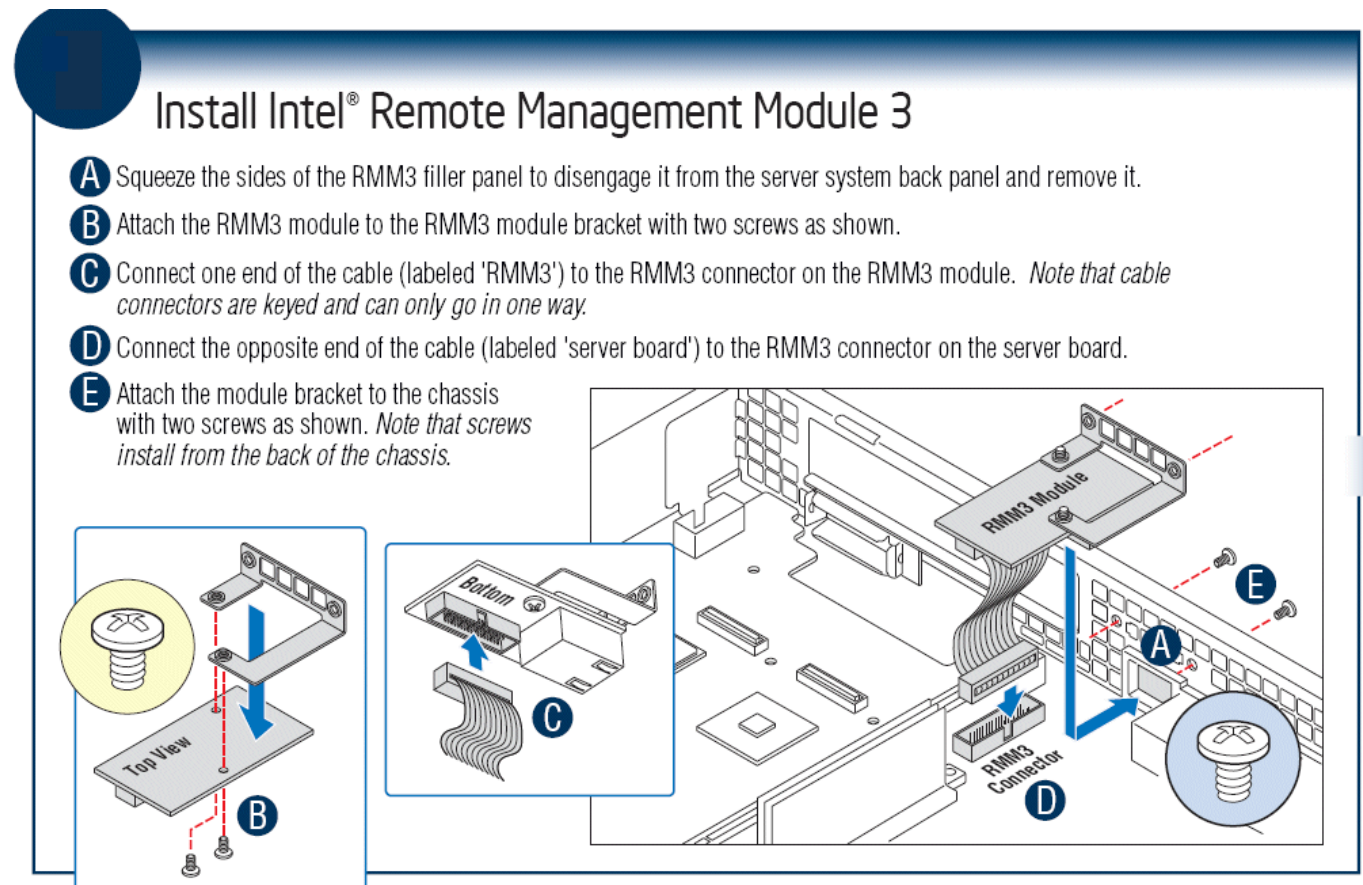

Figure 2 – Installing Intel® RMM3 on Intel® Server Boards S5500UR and S5500WB
4. Mount the RMM3 module to the header on the baseboard and secure the metal fastening bracket to the back of the chassis as shown in figure 2. This will align the RJ-45 with the opening in the chassis.